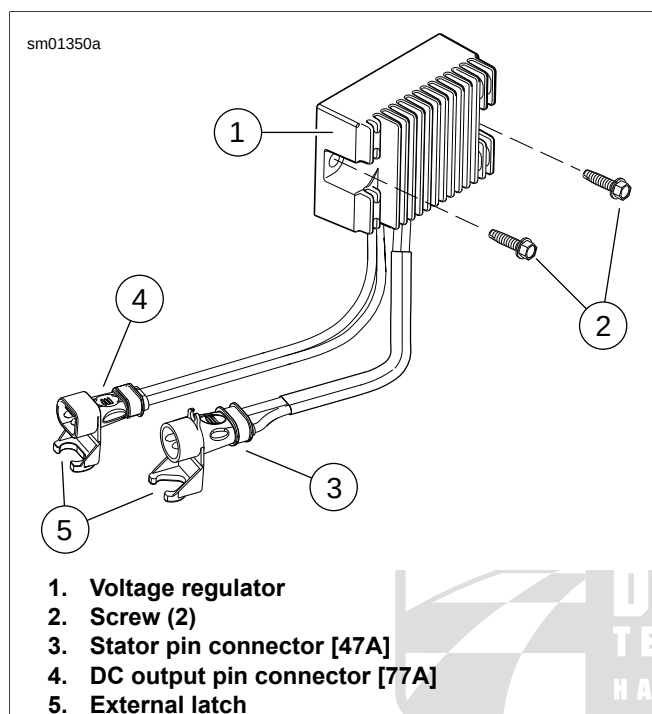

Figure 6-89. Voltage Regulator
See Figure 6-89. The voltage regulator is located between the frame downtubes at the front of the motorcycle. Verify latch (5) connection to prevent connector separation.